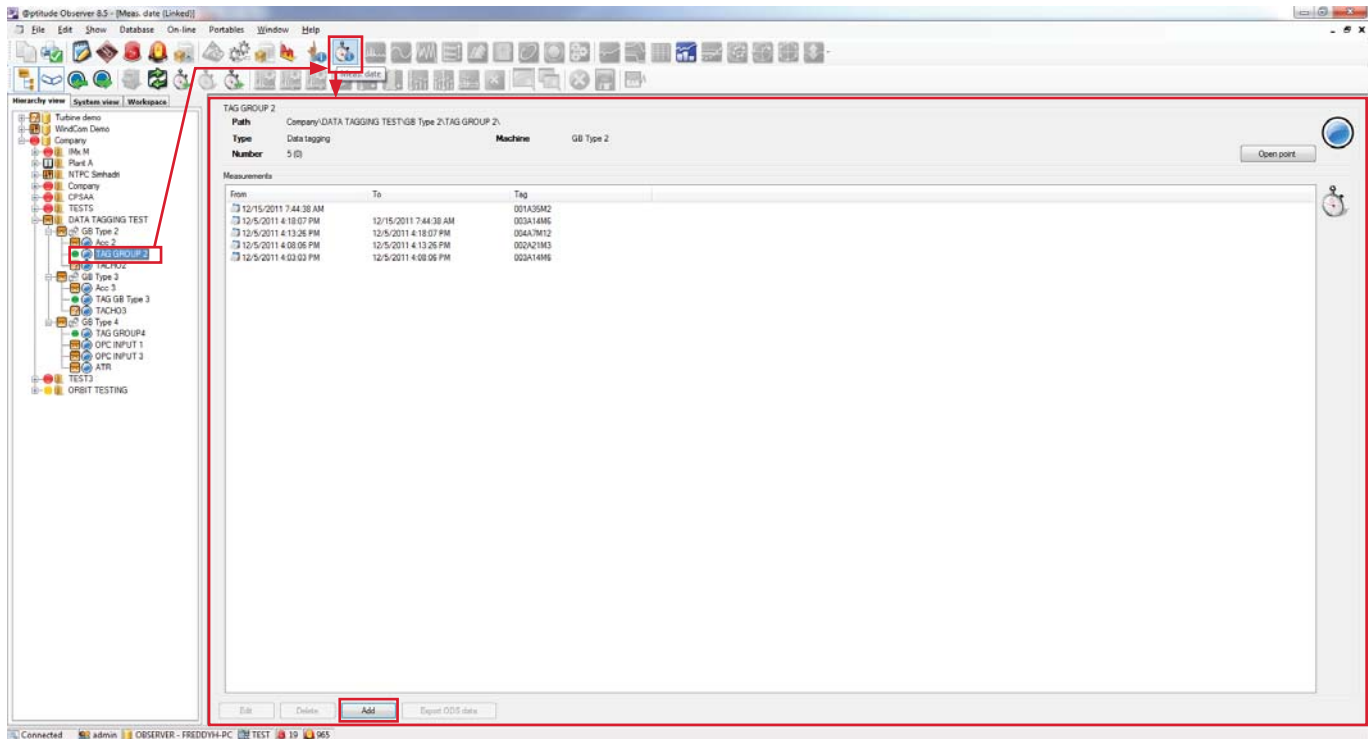

Fig. 10. Meas. data window.
- Select the data tagging point and open the **Meas. data** window (→ fig. 10).